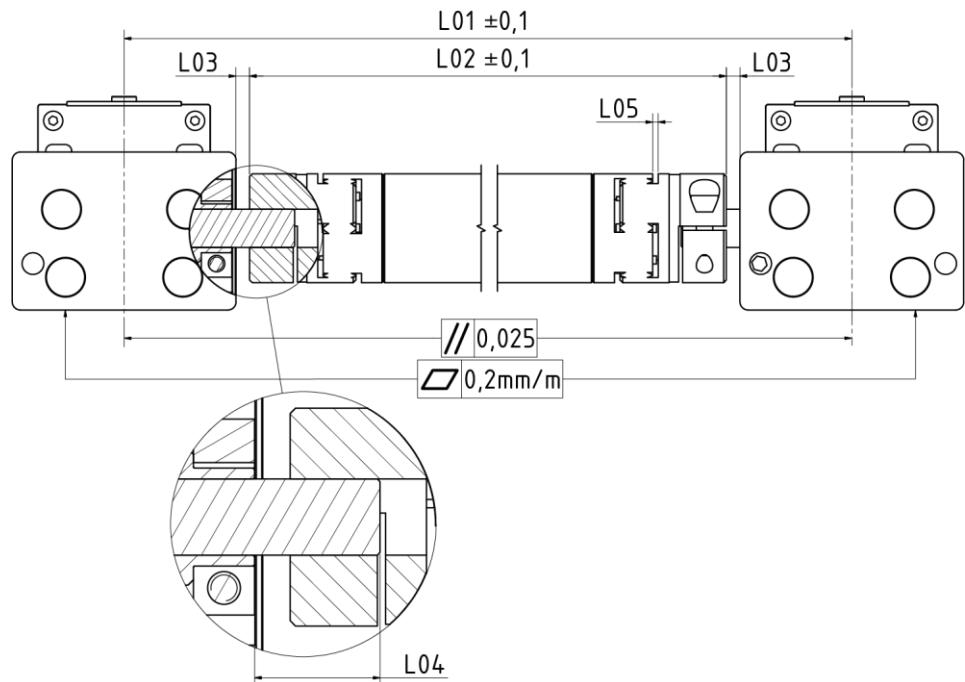

Figure 3: dimensions of connection shaft
- ◆ Axes are aligned parallel to each other, shaft trunions are aligned and axes are aligned parallel and axial to each other (permissive deviations see Figure 3).
- ◆ Check distance between the connection shaft (see Figure 4, Pos. 6) and the coupling halves (see Figure 4, Pos. 7) and readjust in the event of deviation (see Table 2, Figure 3 measurement L05).